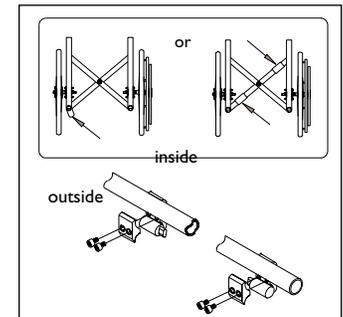

Fig. 9
**3. Drive Shaft Mounting (Storage) Brackets (Fig. 9)**